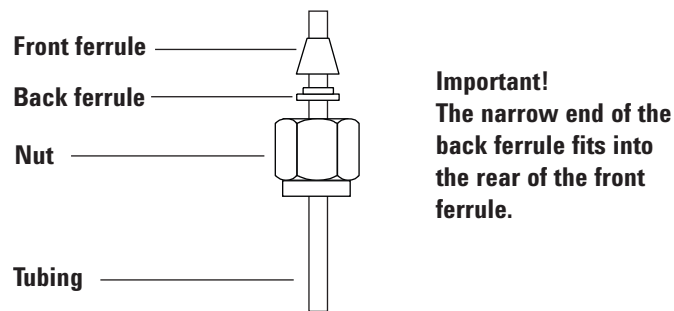

Figure 25 Swagelok nuts and ferrules
- 1 Place a Swagelok nut, back ferrule, and front ferrule to the tubing as shown in Figure 25.